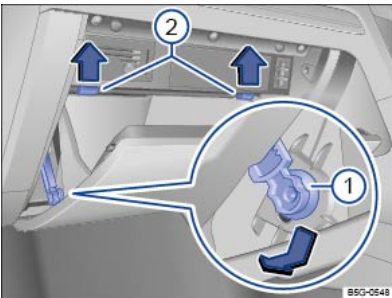

Fig. 209 Fuse box cover in the dash panel: right-hand drive vehicle, on the front passenger side.
- Open the stowage compartment on the front passenger side and remove the contents if necessary $\Rightarrow$ Fig. 209 .
- Slide the braking element $\Rightarrow$ Fig. 209 ① downwards into the opening in the holder and pull it out sideways.
- Push catches $\Rightarrow$ Fig. 209 ② upwards in the direction of the arrow whilst opening the stowage compartment further.
- To *install*: bring storage compartment into position. Insert the brake element in the holder opening and push upwards until it audibly engages. Carefully push the stowage compartment forwards beyond the resistance of the catches $\Rightarrow$ Fig. 209 ②.